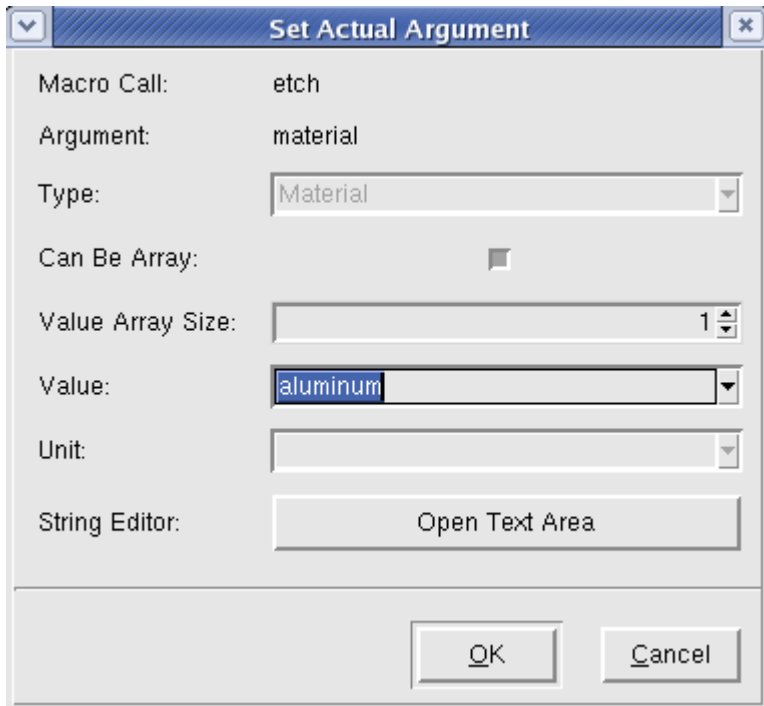
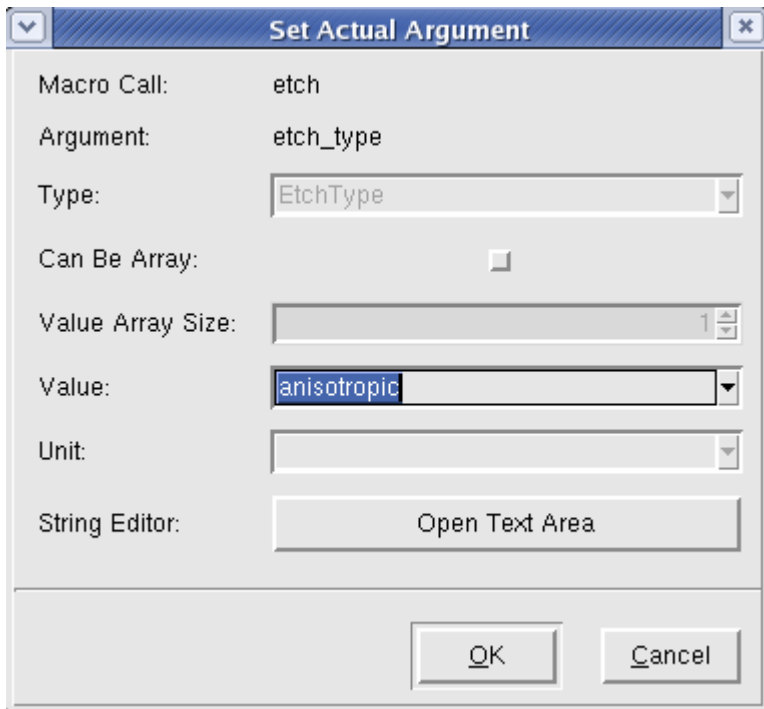
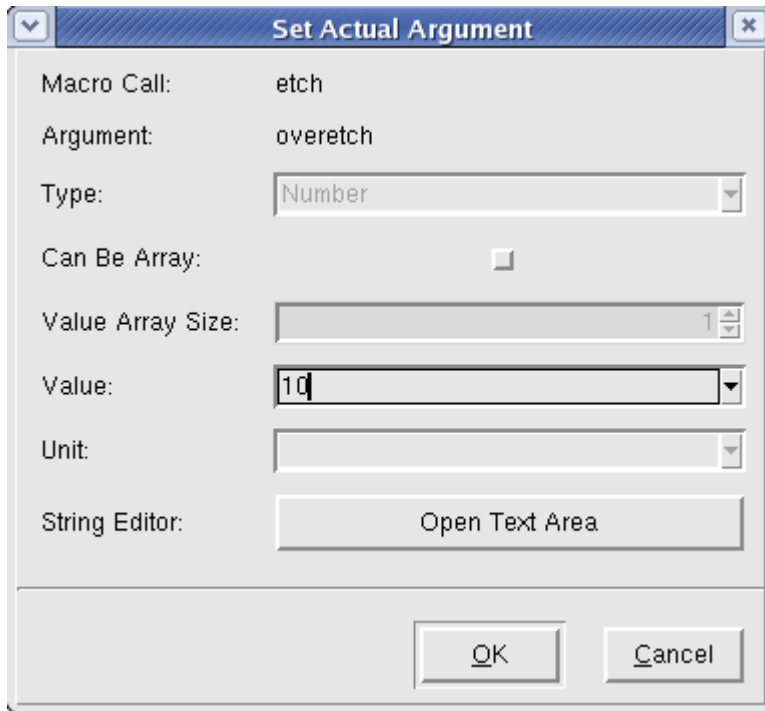

Figure 92: Setting the etch AL etch step.
Figure 93: Setting type.
Figure 94: Setting over etch for Al.
22. Pattern the AL layer by adding an Etch statement. Set the material to AL (Figure 92), the type to anisotropic (Figure 93), and the overetch to 10 (Figure 94).